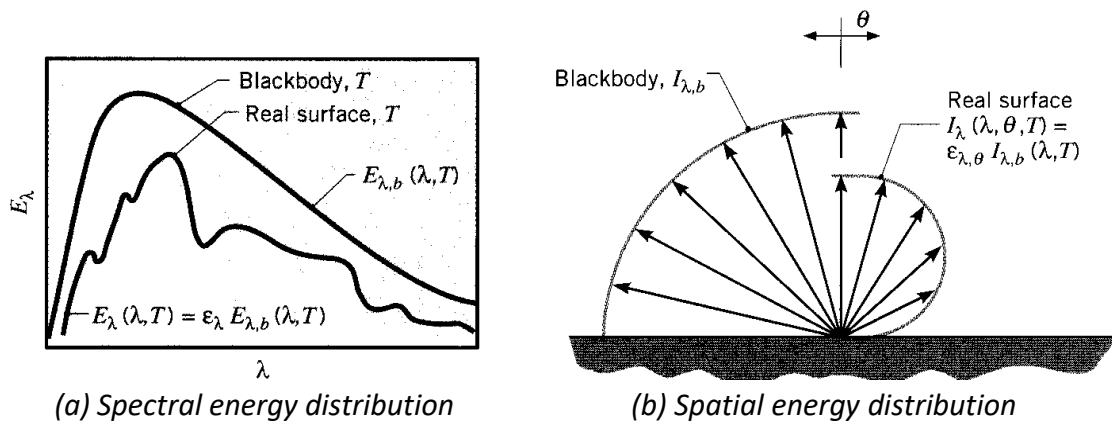

Fig. 5.8 Spectral and spatial energy distribution
- **Spectral Energy Distribution:** The radiation emitted by the body consists of electromagnetic waves of various wavelengths. Distribution of radiation with wave length is called spectral energy distribution as show in figure 5.8(a).